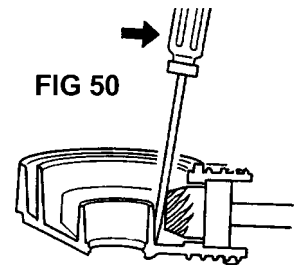

FIG 50
6. If no service tool available, use a screwdriver to lever pinion back. Turn screwdriver on end to lever further. Fig 50 & 51.